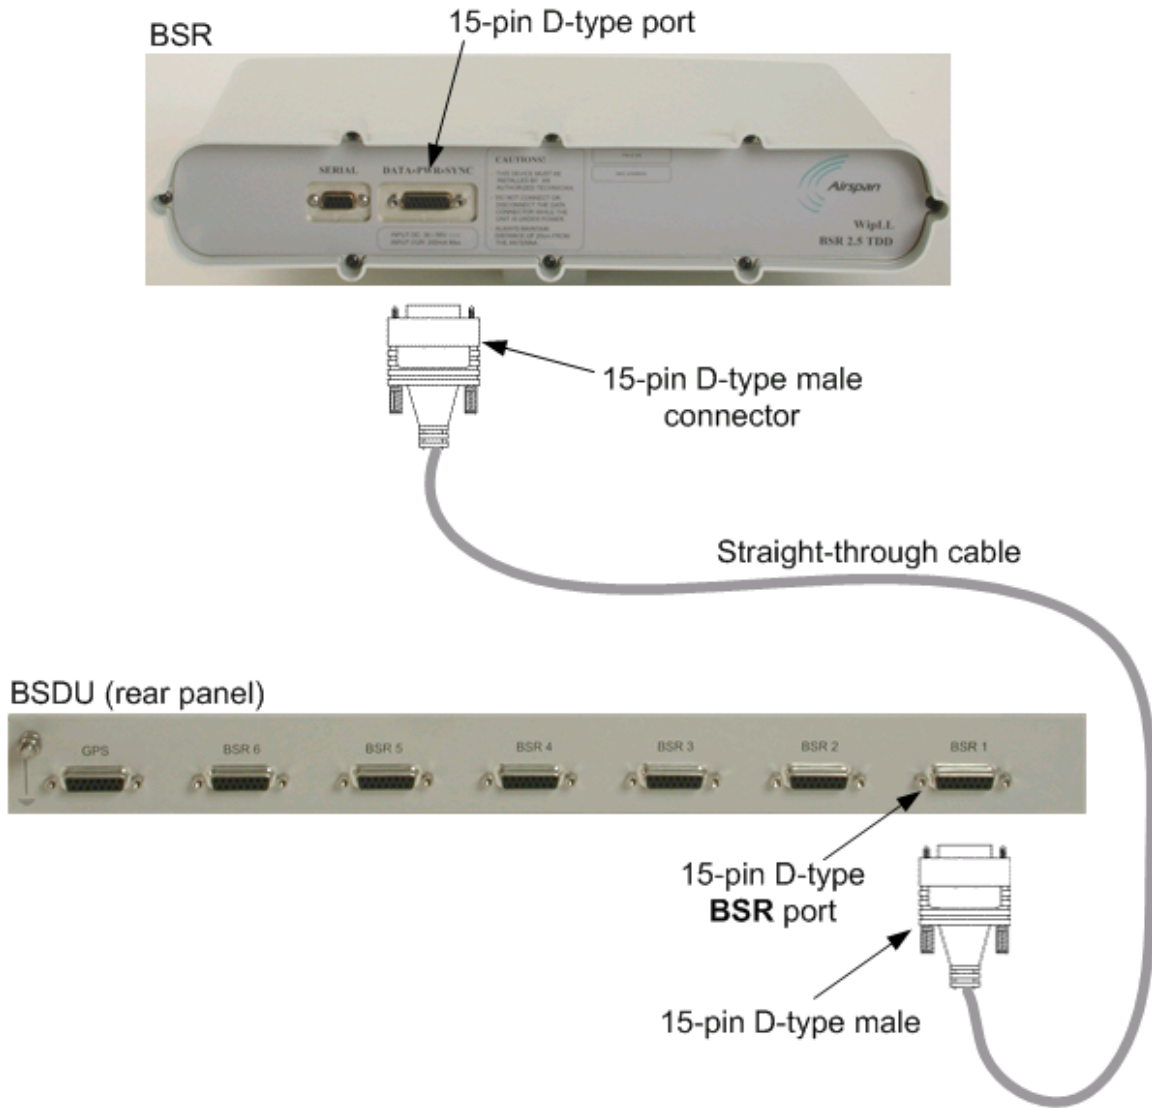

Figure 4-8: BSR-to-BSDU cable connection
1. Attach the **15-pin D-type** connector, at one end of the cable, to the BSR's 15-pin D-type port labeled **DATA POWER SYNC**, as displayed in Figure 4-8.
2. Attach the **15-pin D-type** connector, at the other end of the CAT-5 cable, to the BSDU's **15-pin D-type** port labeled **BSR**, located at the rear of the BSDU, as displayed in Figure 4-8.
Figure 4-8 displays the cable connections between the BSR and BSDU.